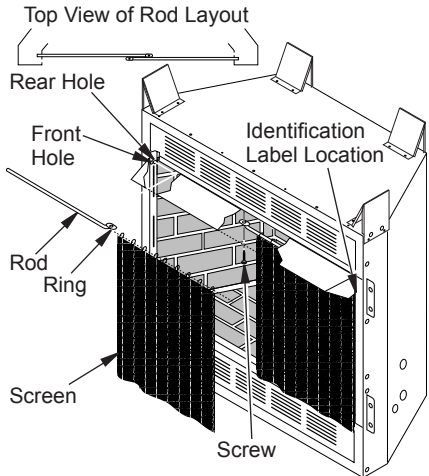

Figure 22 - Installing Fireplace Screen (Model May Vary From Illustration)
3. Insert first rod into rear hole in left side of firebox. Fasten rod to rear hole near center of firebox using #10 x 3/8" Phillips screw provided (see Figure 22).